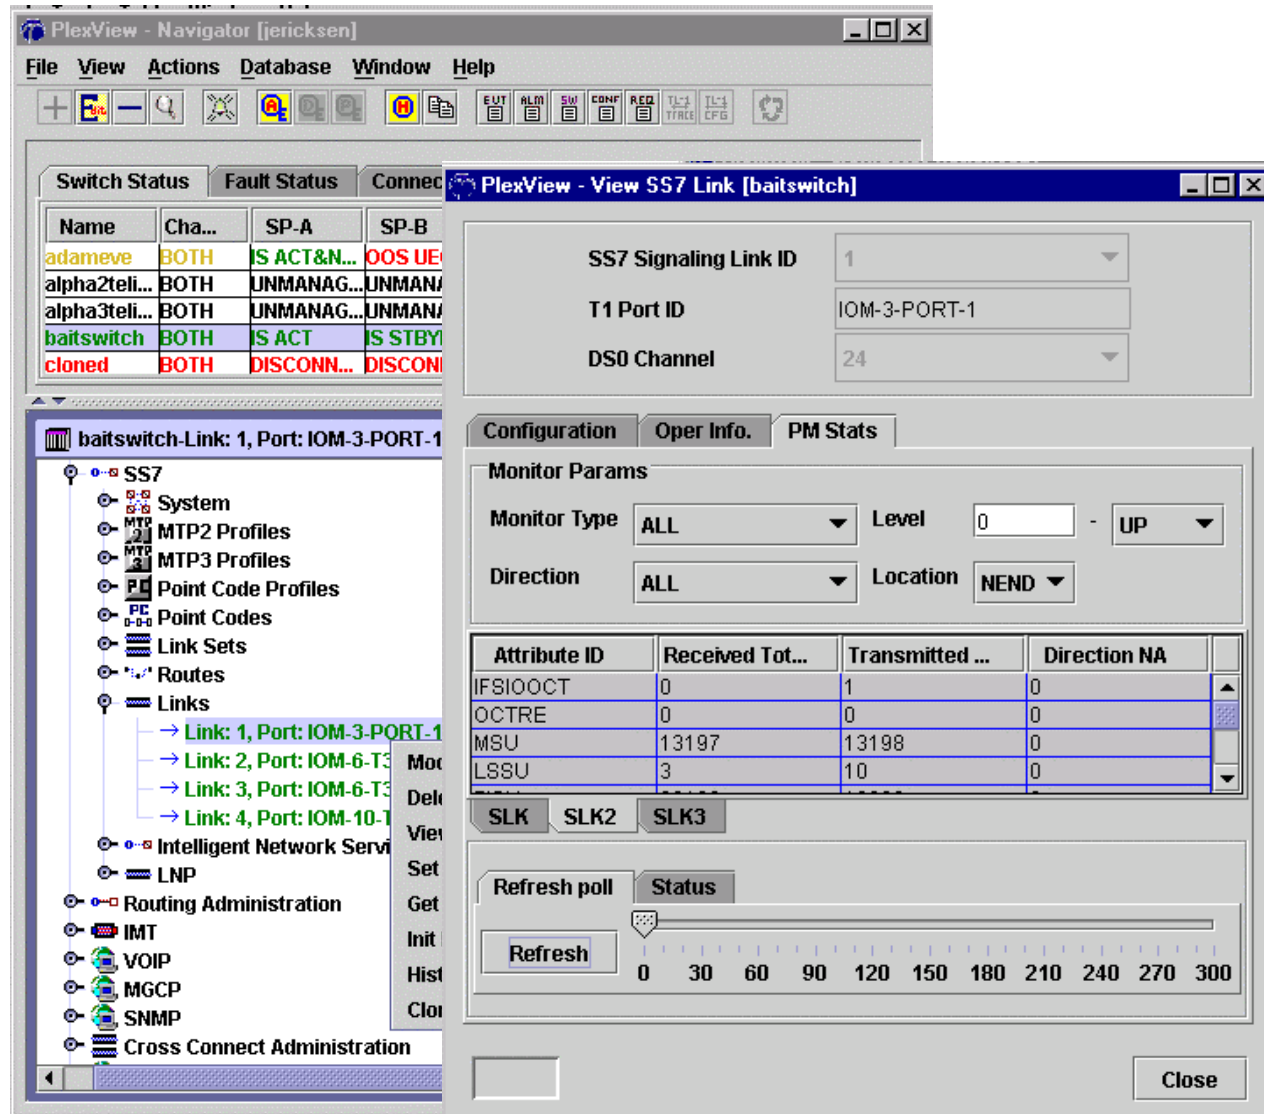

Figure 1. Signaling Link Layer 2 PM Status
5. Retrieve current and historical performance data for signaling link layer 2 by double-clicking the switch, *SS7* and *Links*. Right-click the *link*, click *View* and then select the *PM Stats* tab at the top and the *SLK2* tab toward the bottom. See Figure 1.
10. Clear or initialize the signaling link layer 2 counters by double-clicking the switch, *SS7* and *Links*. Right-click the *link*, click *Modify* and then select the *PM Stats* tab at the top and the *SLK2* tab toward the bottom. Make desired changes and then click *Ok* or *Apply*. See Figure 1.